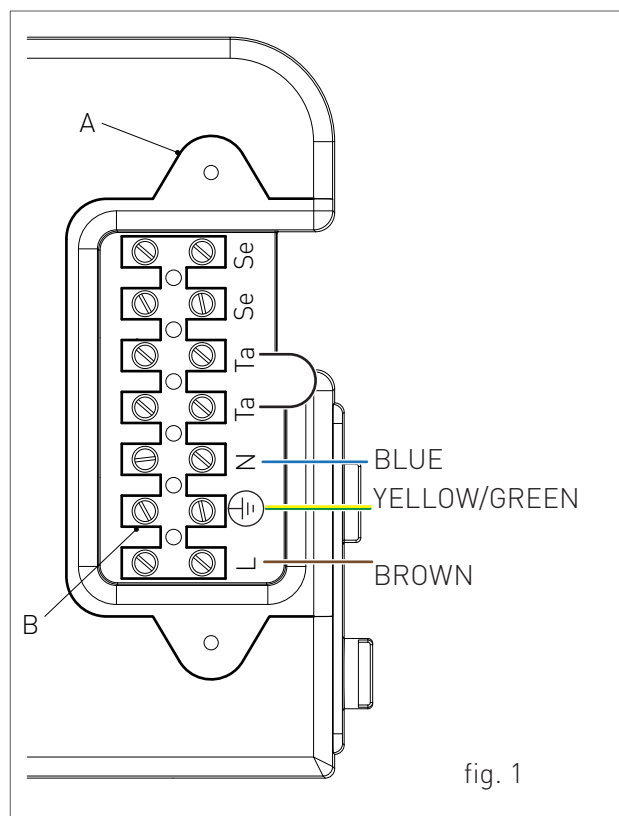

fig. 1
- › loosen the two screws and remove the plate "A" (see fig. 1).
- › after removing the plate, connect the electrical cables to terminal "B" (see fig. 1):